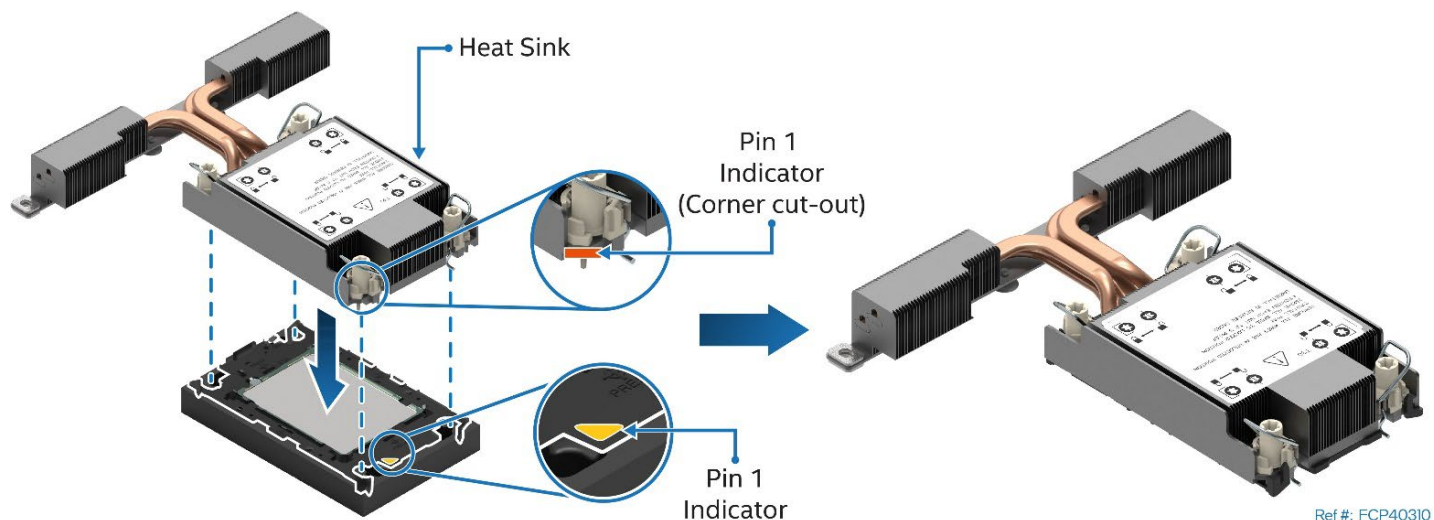

Figure 16. Pin 1 Indicator of Processor Carrier Clip
8. Align Pin 1 indicator of processor carrier clip with the corner cut-out on the heat sink. For the EVAC heat sink, align the processor carrier clip and the heat sink as shown in Figure 16.